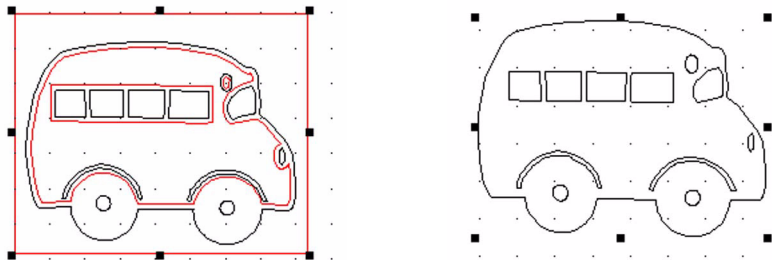

Figure 102
- 3 Delete unwanted lines. Select a line by clicking on it with the **Select Elements** tool and then press `DELETE`. See figure 102. The image on the left shows unwanted lines in red. The image on the right shows the image after the unwanted lines are deleted.